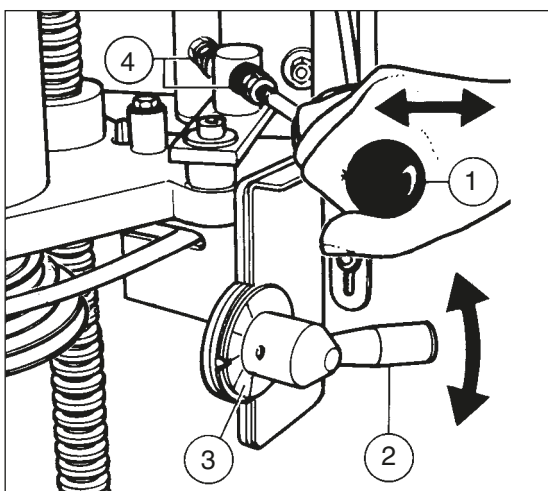
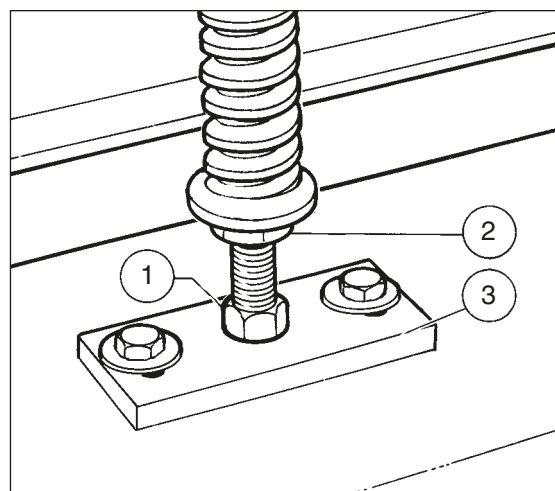

Fig.29
Fig.30
Changing of the belt (Fig.30)
Loosen the belt with the lever (fig.29,1), then loosen the nut (fig.30,2) while holding the bolt (1). When the nut (2) is turned completely downwards, then the bolt (1) must be turned in the threaded rod in order to obtain a gap between the bolt and the support plate (3). After having changed the belt, the bolt must be turned in its initial position, but please take care that this bolt (1) is turned just against the support (3) without too much pressure. Then turn the nut (2) upwards to the threaded rod and lock.
Please check whether the fork is in the correct position that corresponds to the chosen speed, to the indicator (fig.29,3) and to the speed indication on the machine.